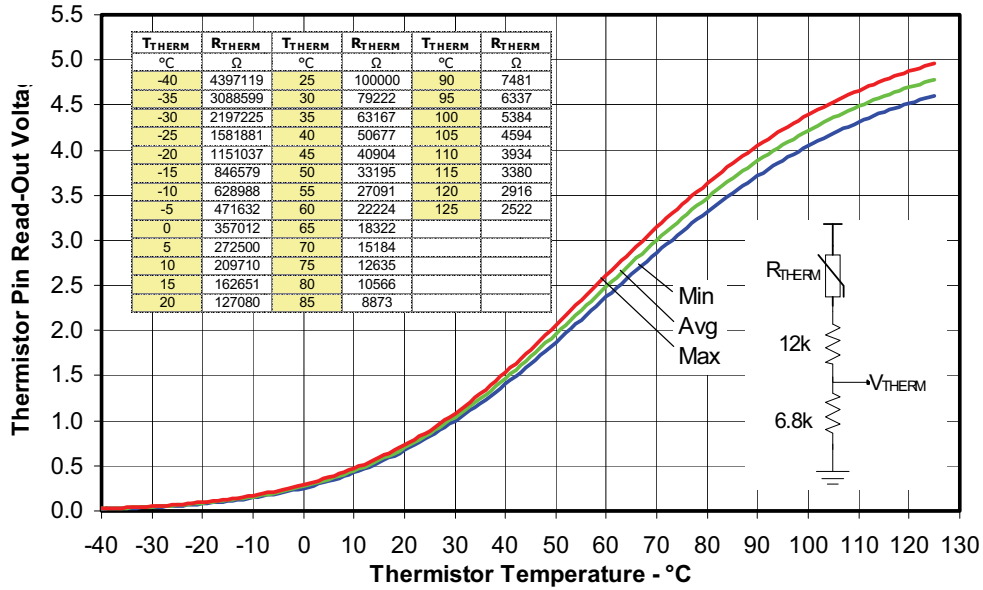

Figure 9. Thermistor Readout vs. Temperature (6.8kohm, 1% pull down resistor) and Nominal Thermistor Resistance values vs. Temperature Table.
3. Value of the boot-strap capacitors depends upon the switching frequency. Their selection should be made based on IR design tip DN 98-2a, application note AN-1044 or Figure 9. Bootstrap capacitor value must be selected to limit the power dissipation of the internal resistor in series with the  $V_{CC}$ . (see maximum ratings Table on page 3).